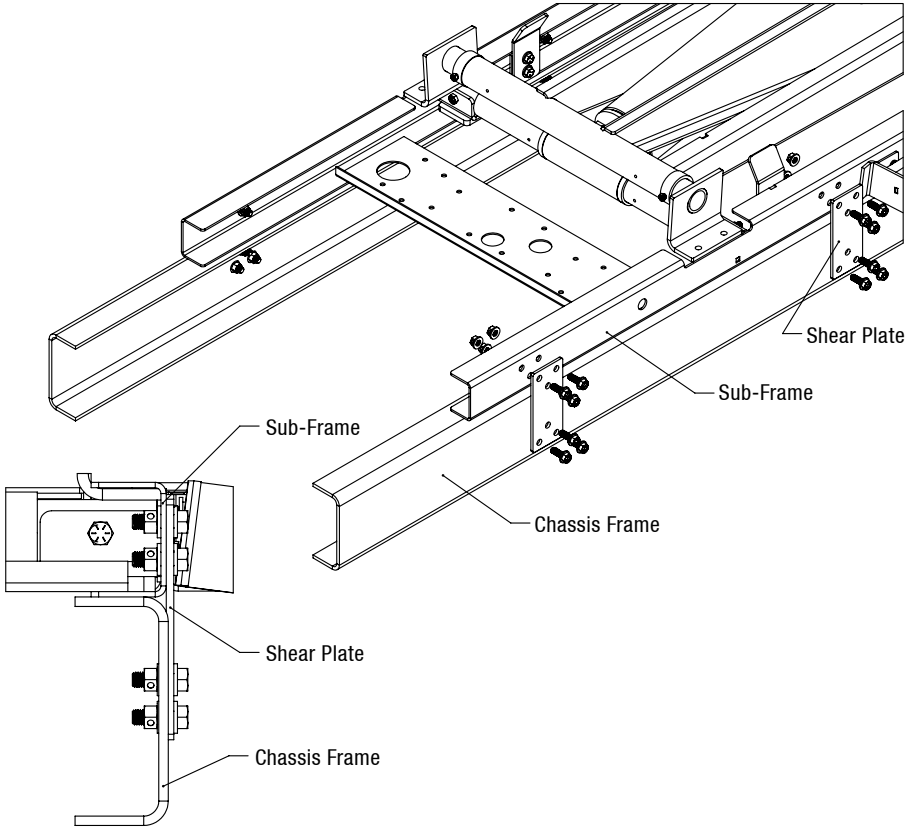

Figure 5: Sub-frame Mounting
2. Secure each mounting plate to the truck frame by drilling three 17/32" diameter holes and bolting the mounting plate to the truck frame using three 1/2" GR8 bolts and locknuts. (Figure 5). This applies to each mounting plate.
3. Bolt each mounting plate to the sub-frame rail using three 1/2" GR8 bolts and locknuts (or weld plate to subframe if necessary), keeping within the guidelines shown in Figure 5. **DO NOT** weld the mounting plates to the chassis frame. This applies to each mounting plate.